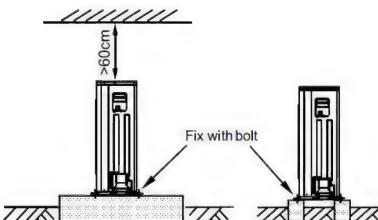

Fig.6-6
- Make concrete foundation according to the specifications of the outdoor units. (refer to Fig.6-6)
- Fasten the feet of this unit with bolts firmly to prevent it from collapsing in case of earthquake or strong wind. (refer to Fig.6-6)